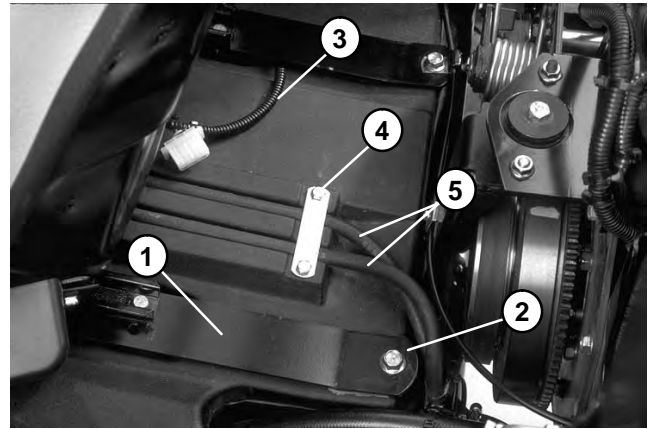

Figure 6
4. Remove fuel hose strap and both fuel hoses from the fuel tank (Fig 6). Remove fuel tank from the machine.